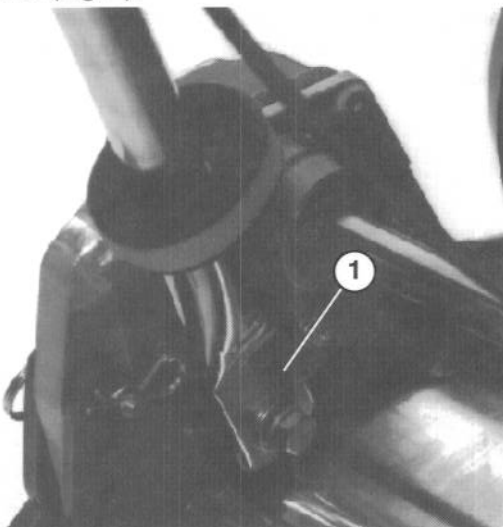

Figure 2
3. Squeeze handle ends inward and install on mounting pins (Fig. 2).
4. Secure handle ends to mounting pins with capscrews, washers and lockwashers previously removed (Fig. 2).
1. Remove hairpin cotters from ring pins on each side of mower (Fig. 2).
2. While supporting handle, remove ring pins from each side and raise or lower handle to desired operating position. (Fig. 2).